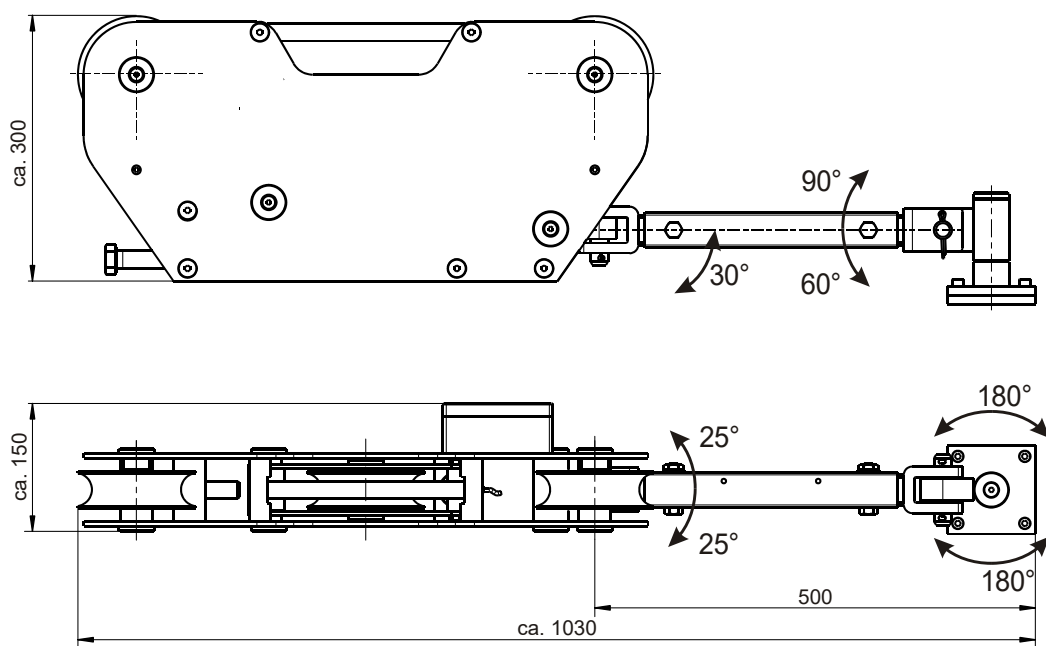

Figure 3: KSW-3R and the XKM 078.01 mounting unit
- The freedom of movement of the XKM 078.01 mounting unit for the KSW-3R38 is shown by Figure 3.